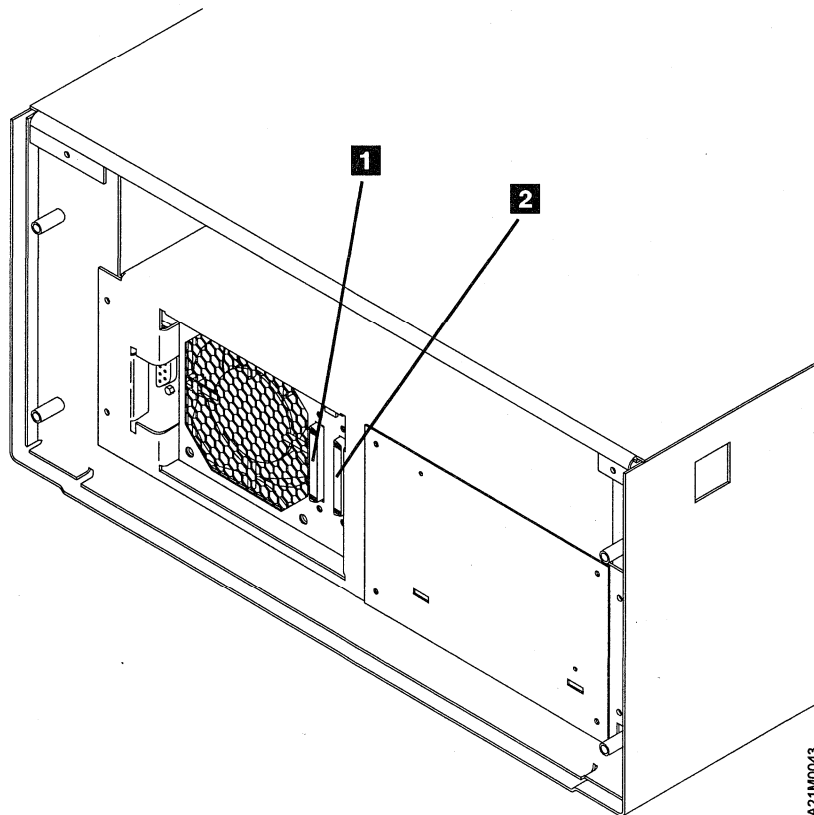

Figure 71. Rear View of Model C21
- 1. If the 3570 is the first or only SCSI device connected in line to the initiator, connect the SCSI cable coming from the initiator to the leftmost SCSI connector on the back of the library (see **1** in Figure 71).
- 2. If the 3570 is not the first device on the SCSI bus, connect the SCSI interface cable coming from the next closest device to the leftmost SCSI connector on the back of the library (see **1** in Figure 71).
- 3. If this is the last device on this SCSI bus, locate the SCSI interface terminator (P/N 61G8324) and attach it to the rightmost SCSI connector on the back of the library (see **2** in Figure 71).
- 4. If the library is not the last device on this SCSI bus, locate the SCSI interface cable to the next device and connect it to the unused, rightmost SCSI interface connector on the back of the library (see **2** in Figure 71).